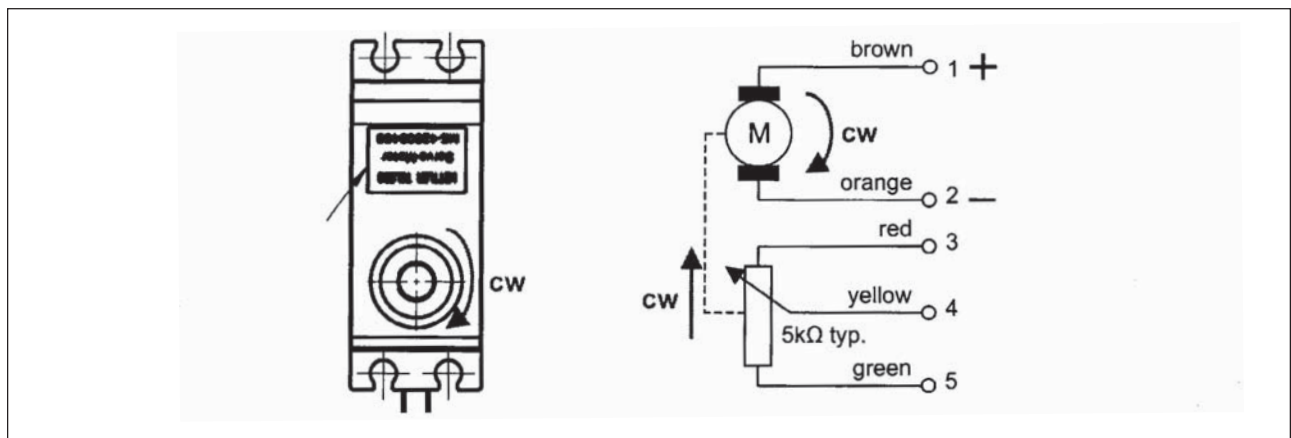

Figure 4-9. Motor Wiring Diagram.
The InCal Motor receives power from the Main PC board when internal calibration is called for. The Motor runs on 5 Volts dc and contains an internal potentiometer that is used to determine the motor position. Figure 4-9 illustrates the wiring diagram of the motor.
3. Refer to Figure 4-9 and apply +5 Volts dc to pin 1 (Brown wire) and -5 Volts dc to pin 2 (Orange wire) for about 10 seconds and note if the motor turns clockwise until it reaches it's internal stop. Reverse the polarity on pins 1 and 2 and apply 5 Volts dc again for 10 seconds. The motor should run in the opposite direction until the stop is reached. Observe the calibration mechanism to see if any binding or restrictions occurs. If the motor does not run, continue with the next step.